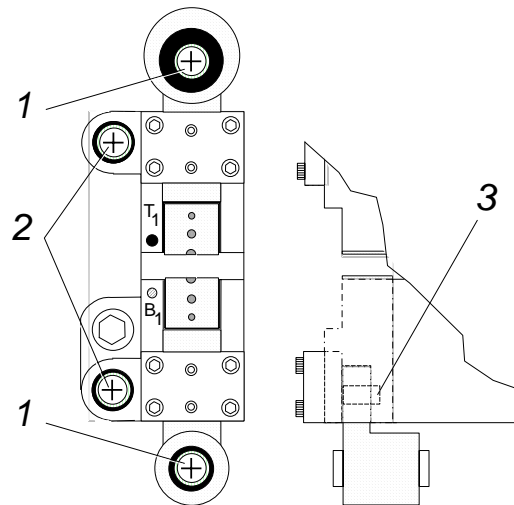

Figure 21 Die Block Assembly Lubrication
- a. Generously apply 5 weight oil (3-in-1) to all sides of slide and crank pin (Figure 21, Item 3), working in thoroughly.